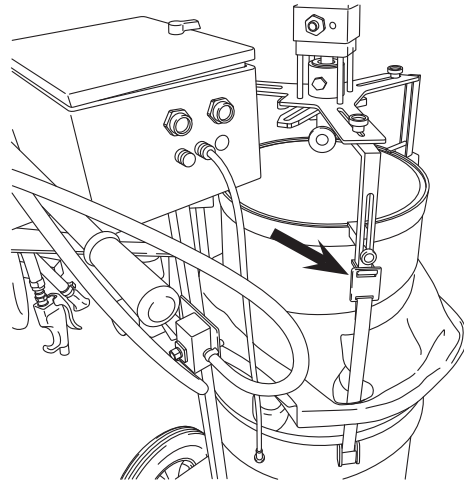

Figure 14
1. Slide the three straps from the DPF Cleaner thru the Neoprene Skirt slots and secure the straps to the fixture. (Figure 14)